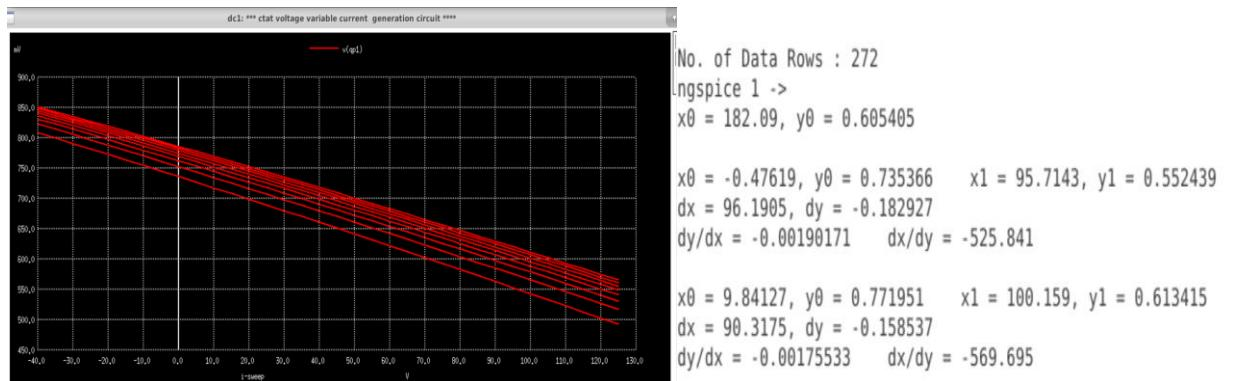

Fig 7. Variable current with single PNP transistor and slope
- In fig 7 u can observe slope increases negatively with decrease in currents.